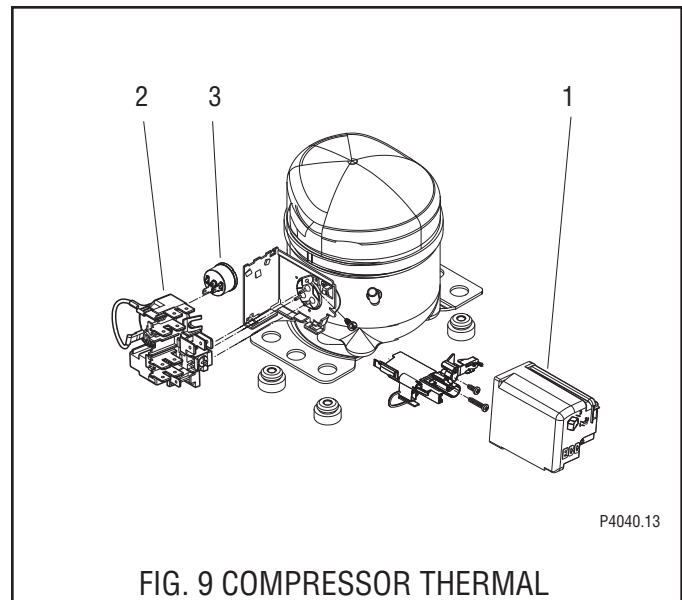

FIG. 9 COMPRESSOR THERMAL OVERLOAD PROTECTOR LOCATION
Compressor Relay: Refer to FIG. 9
1. Remove the terminal cover (1)
3. Pull relay (2) off of the compressor pins.
4. Remove overload protector (3) and discard relay.
7. Refer to Fig. 9 and reconnect the wires.
8. Reinstall terminal cover (1).
Compressor Thermal Overload Protector: Refer to FIG. 9